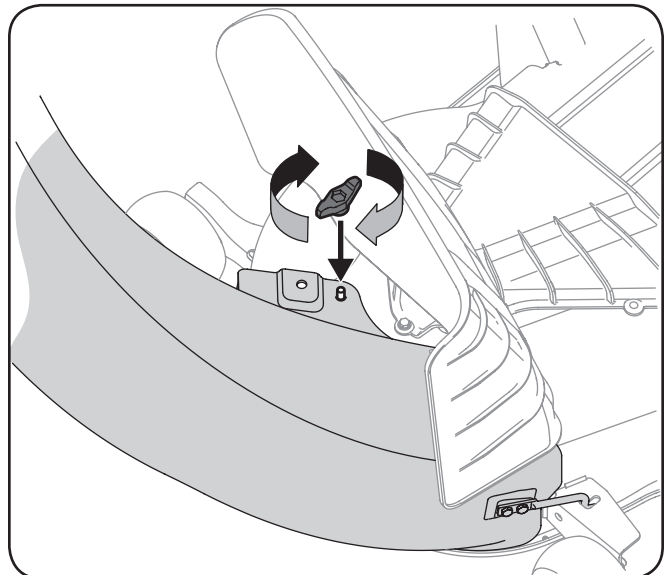

Figure 5-23
- Secure the discharge chute elbow to the cutting deck using a (720-04122) wing knob included in hardware pack 689-00341. Refer to Figure 5-23.